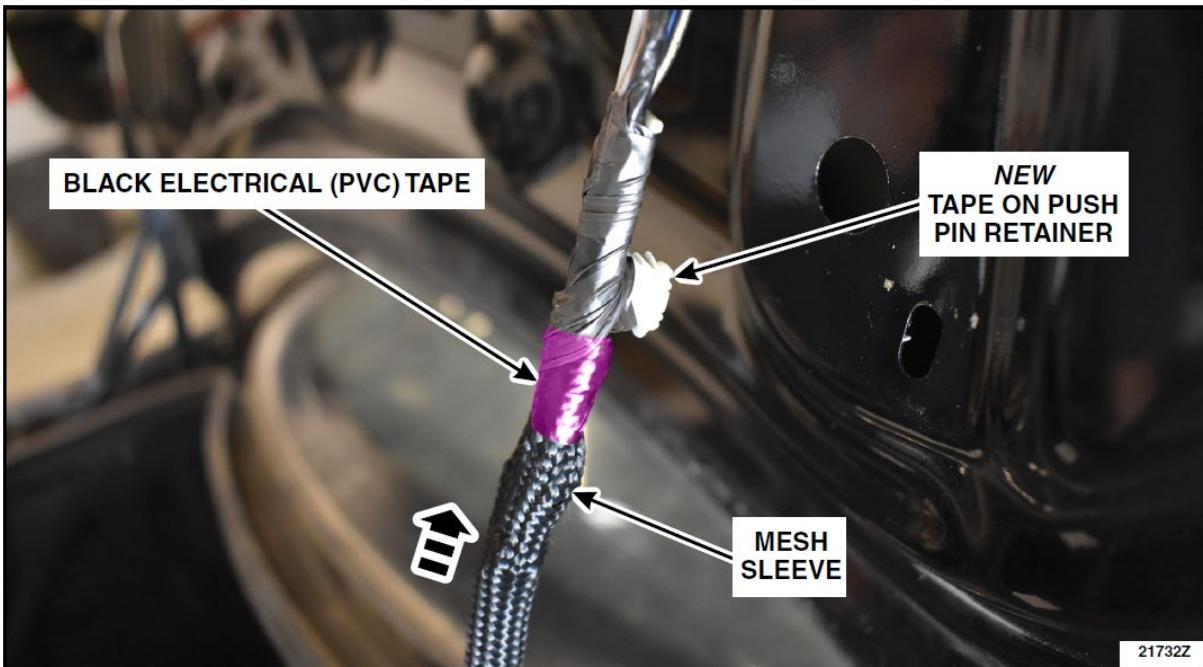

FIGURE 25
34. Slide the mesh sleeve up to the new tape on push pin retainer and secure using some KTI73510 or equivalent black electrical (PVC) tape. See Figure 25.